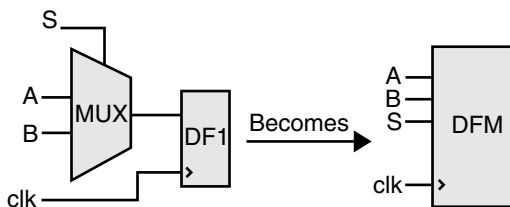

Figure 4-2. Combined Combinatorial and Sequential Macros
2. It combines a combinatorial macro and a sequential macro into a single sequential macro. For example, a combinatorial macro “MUX” and a sequential macro “DF1” are combined into a single sequential macro “DFM,” shown in Figure 4-2. Module Reduction is not available for 54SX/54SX-A or eX devices. Instead, an automatic DirectConnect between a combinatorial module and a sequential module is used.